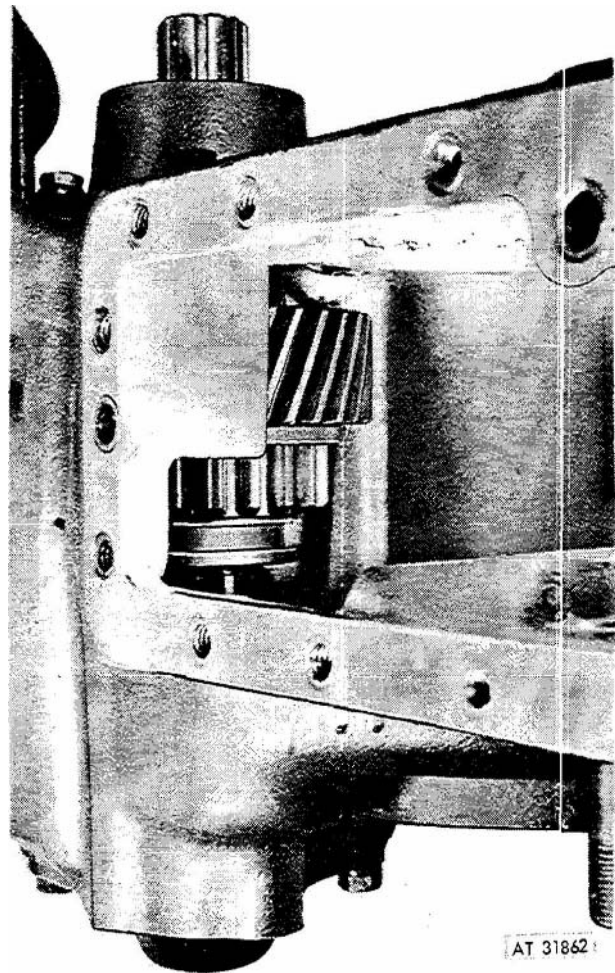

Figure 3-66. Proper installation of input shaft gears.
(6) Connect shim (28, fig 3-47) and retainer (29) and secure with screw (31) and lock washer (30). Inspect gears for proper installation (fig 3-66).